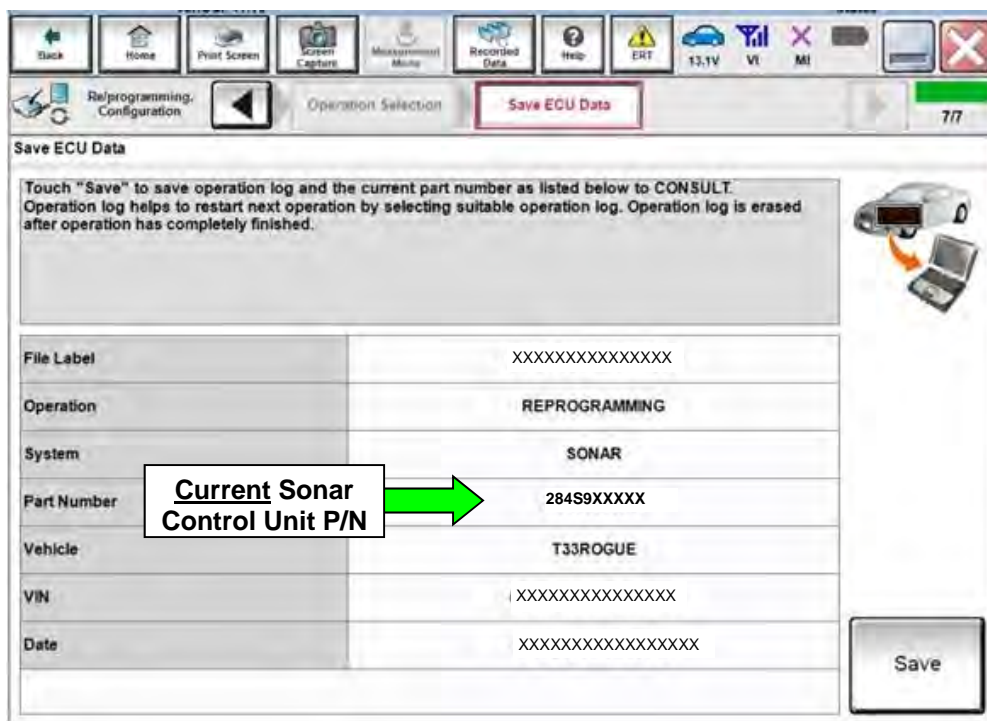

Figure 15
23. When you get to the screen shown in Figure 15, confirm that a reprogram is available as follows: